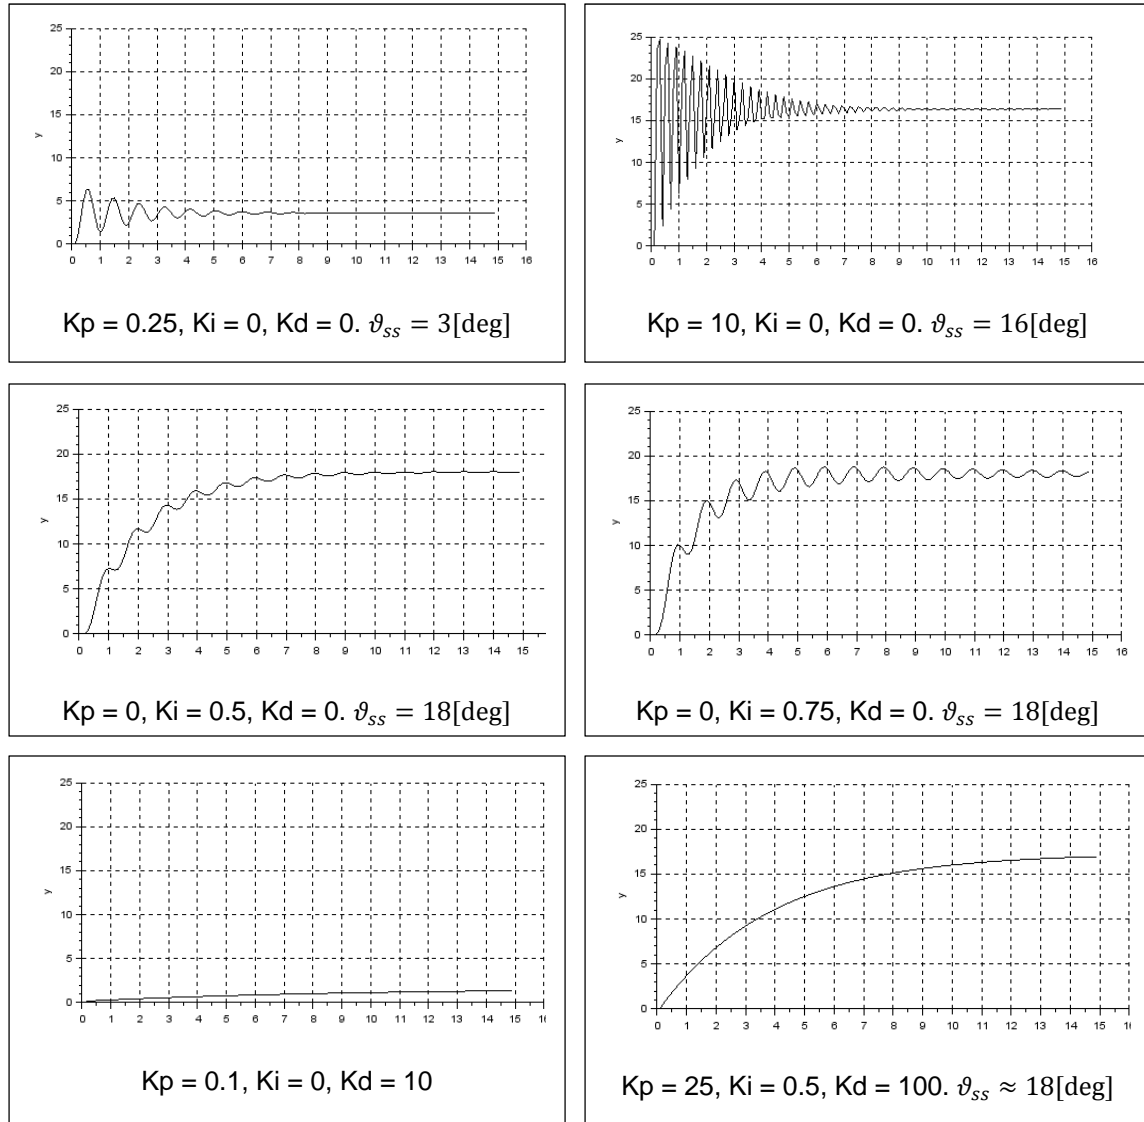

Fig 2-2B: Various plots running simulation in Fig 2-1A.
- 2.1 Replicate Fig 2-2B by simulating your system. Capture 6 plots: (1A) Proportional-only; (1B) Higher proportional-only; (2A) Integral-only; (2B) higher integral-only; (3A) proportional + derivative; (3B) higher proportional-derivative